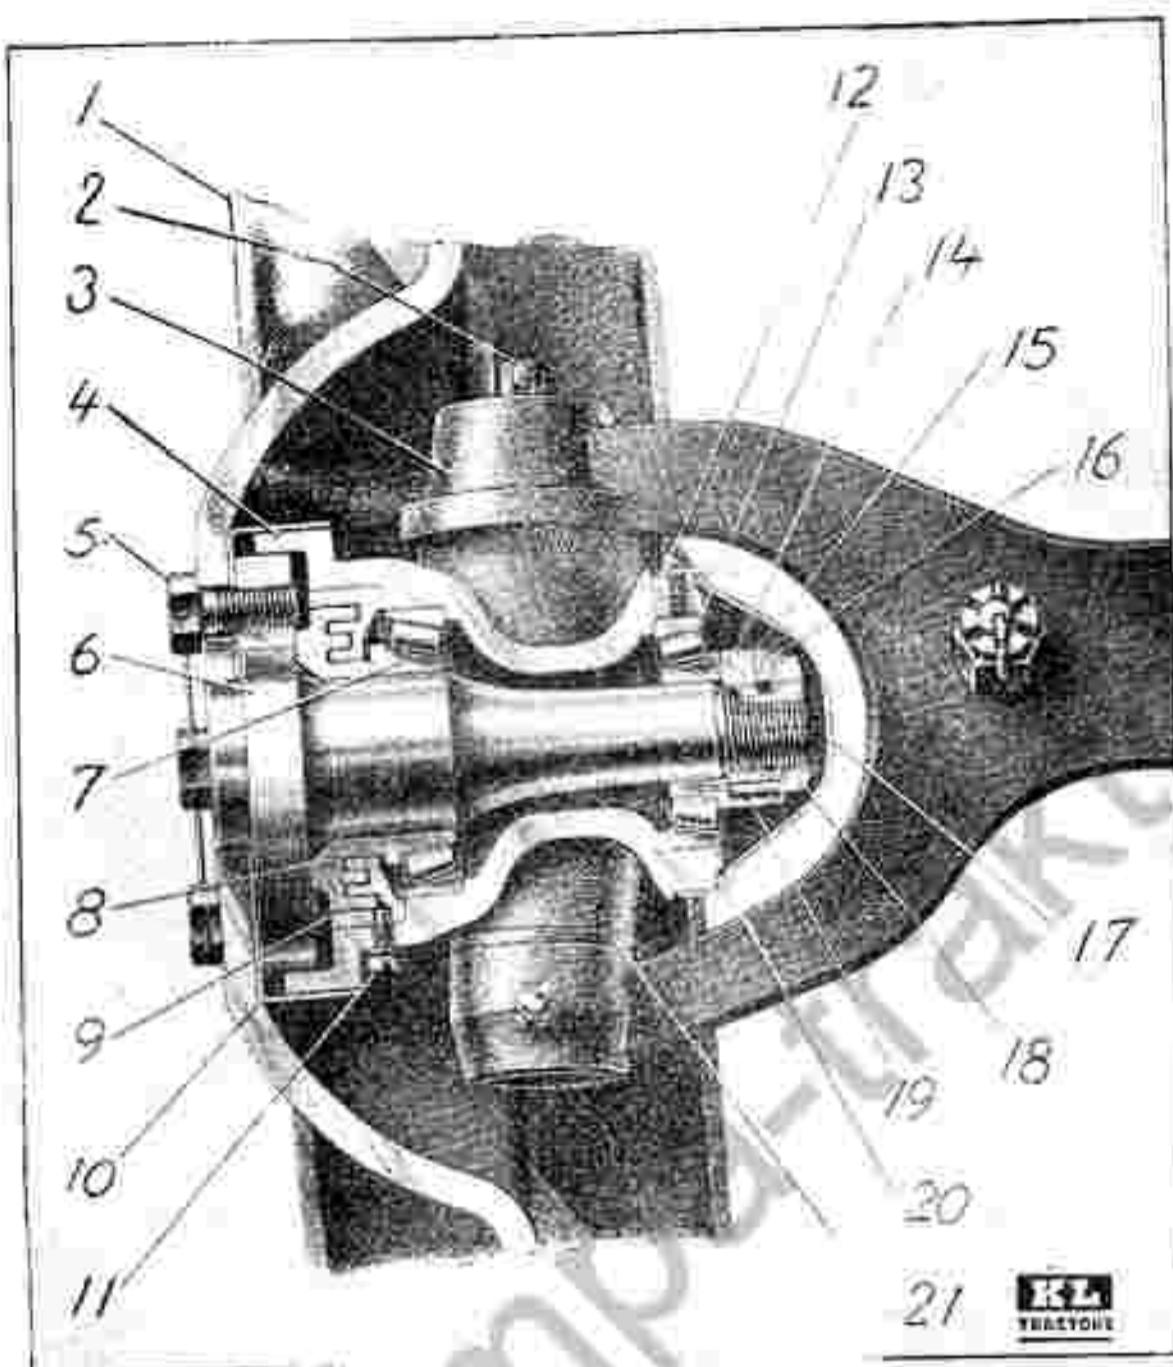

Fig. 77. Sectional view of steering knuckle assembly.
STEERING KNUCKLE - The steering knuckle bearing must be inspected frequently for end play by moving it axially to and fro after jacking it up. Slightest signs of end play must be taken up immediately by adjusting ring nut (14), Fig. 77, secured by lock plate (15) and lock pin (19). To get access to this nut, the front wheel must be jacked up and turned on full lock. Then remove hub cap (17), felt ring (20), lock nut (15), lock washer (16), lock plate (15), and lock pin (19).